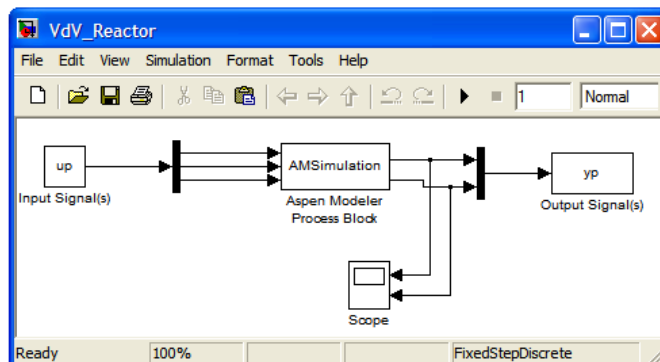

Figure 5: Simulink Flowsheet with Embedded ACM Model
- Open MATLAB and set the current folder to the “VdV” folder in the toolbar. Within the list of files on the left, double-click the “VdV\_Reactor.mdl” Simulink model file. A Simulink window as shown in Figure 5 displays. In the Simulink window, double-click the “AMSimulation” block.